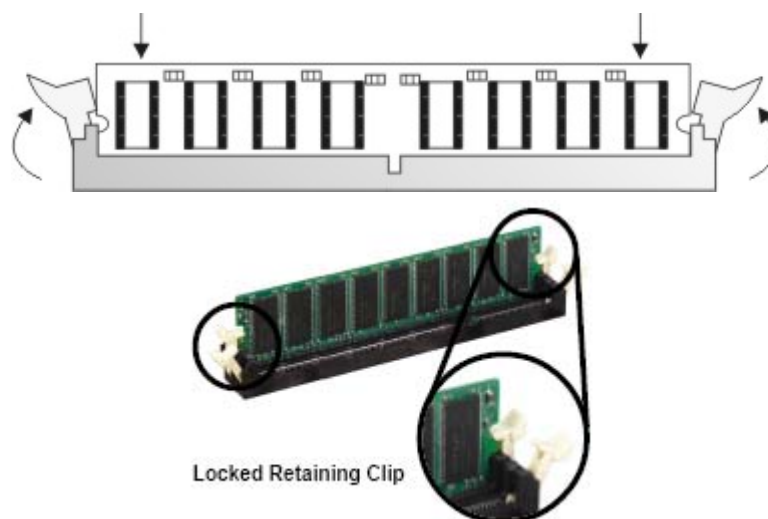

Figure 4-7: Locking the DIMM Module
Step 2: Slowly slide the DIMM module along the plastic guides on both ends of the socket. Press the DIMM module down into the socket until it clicks into position and the two handles have automatically locked the memory module into place (Figure 4-7).